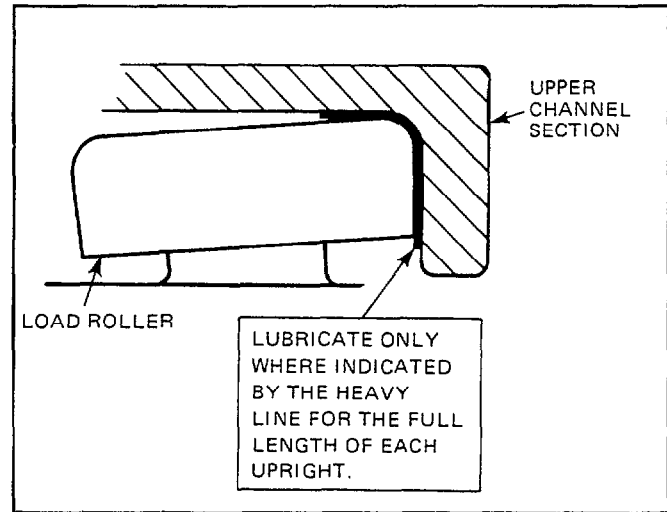

Figure 24. Mast Lubrication (typical)
- Make sure the inner upright channel members are lubricated with chassis lube or Kendall SR-12X (Cascade part number 599474). See Figure 24.